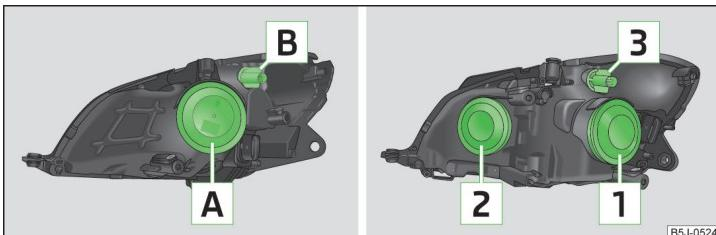

Fig. 154 Bulb arrangement: Halogen headlights/halogen projector headlights
Remove the rubber cover A » Fig. 154 on page 170.
- Remove the rubber cover **1** » Fig. 154 on page 170.
- Remove the rubber cover **2** » Fig. 154 on page 170.
- Remove the bulb holder **B** » Fig. 154 on page 170 or the bulb holder **3** to the stop in an anti-clockwise direction and remove with the bulb for the turn signal.
- Remove rubber cover **A** » Fig. 154 on page 170 or **2**.